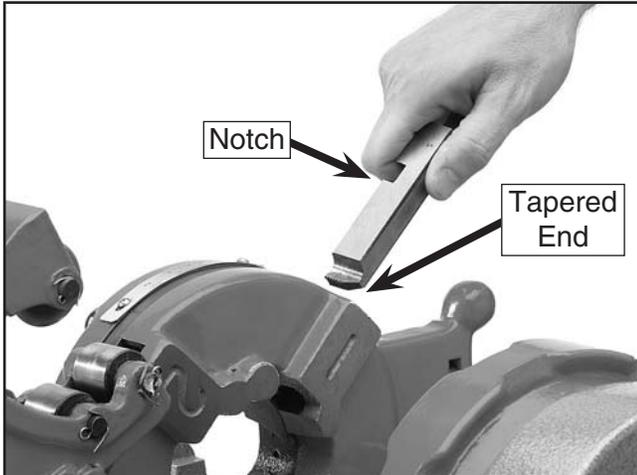

Figure 6. Inserting #1 die in #1 slot.
3. Insert the #1 die (number stamped into side of die) into the #1 slot on the threading tool with the tapered end of the die toward the headstock, as shown in **Figure 6**. The die should "click" into place when inserted approximately $\frac{3}{4}$ of the way.